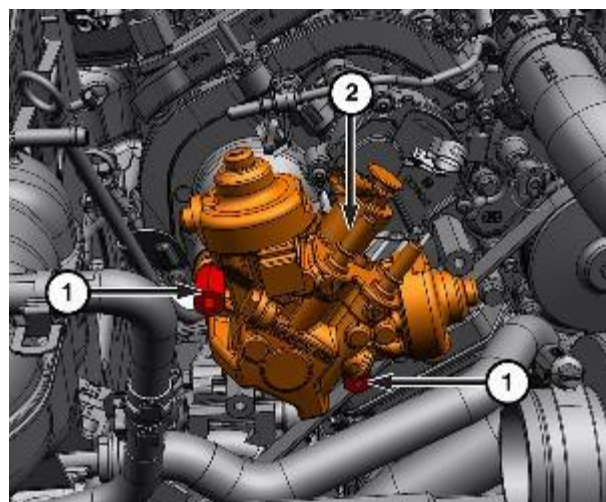

Figure 24 – Upper Bolts
27. Remove the upper bolts (1) from the high-pressure pump (2) (Figure 24).